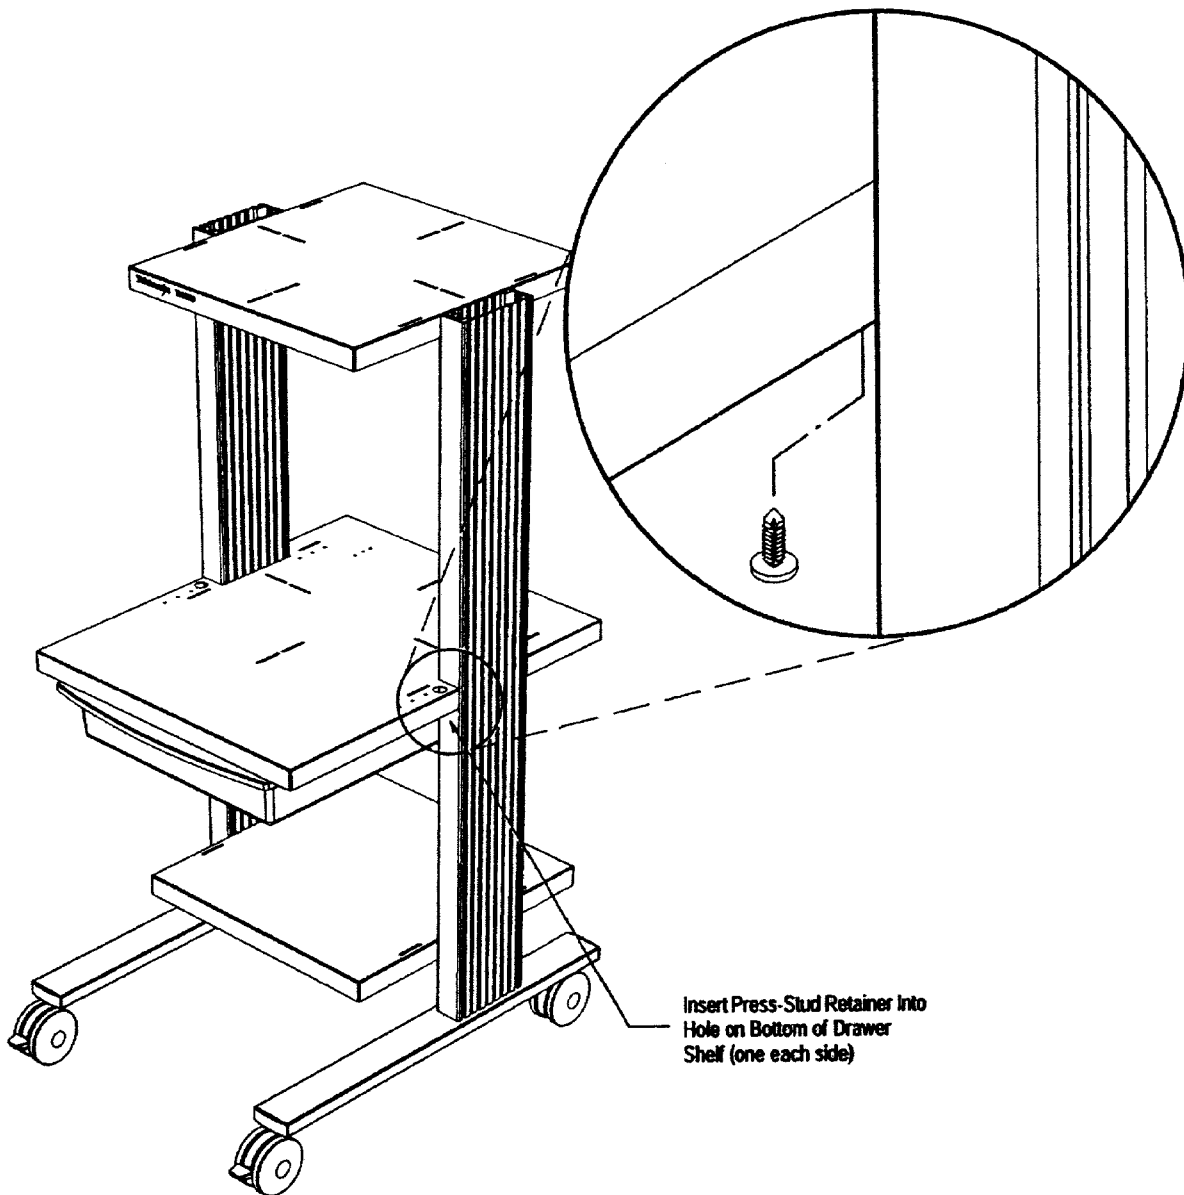

Figure 13: Installing the Press Stud Retainers
2. With the drawer pushed all the way back to the stops, use your thumb to press into place the two press-stud retainers at the bottom of the drawer rails, as shown in Figure 13.